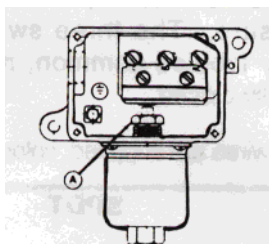

Figure 1: Models 50-55,136-160, S136-S160, S136B-S160B, 258-274, and 354-364, 680
Remove cover and gasketing. The right hand adjusting screw, label "A" Figures 1- and 2, is located beneath the switch and is turned to adjust the control setpoint. On pressure controls, turning this screw clockwise will increase the setpoint; for vacuum ranges, this screw is turned counterclockwise to raise the setpoint.
- a. Position and securely fasten electrode so that tip of electrode is in pilot flame path and tip is approximately 5/32" from grounded pilot burner head or thermocouple tip. Use round plastic gage provided to obtain correct spark gap. Gage should touch but slide through easily. (See above Figure 1, 2 and 3 for easy mounting methods.)